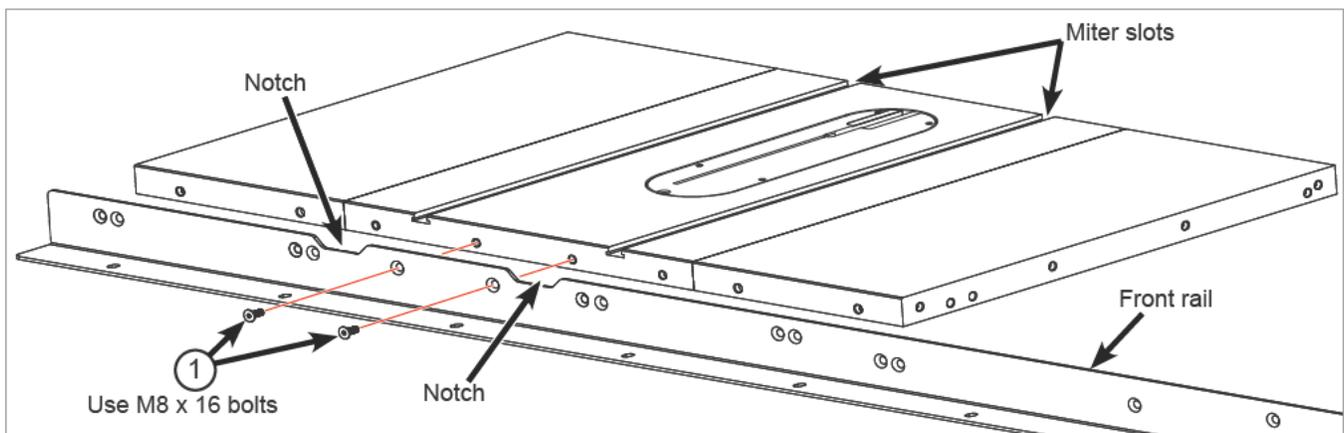

Fig. 3
1. Begin mounting the front rail (the longer of the two rails) to the front edge of your saw by centering the notches in the rail with the two miter slots in the table, aligning the two holes in the rail between the notches with the two corresponding holes in the front edge of the table, and threading an M8 x 16 countersunk socket head bolt (1) into each hole (See Fig. 3). Aligning the two holes between the notches aligns all the other holes used in mounting the rail to your saw. Not all the holes are used to mount the rail to your saw; different holes are used for different saws. Thread the bolts into the corresponding holes, and tighten them using a 5 mm hex key.